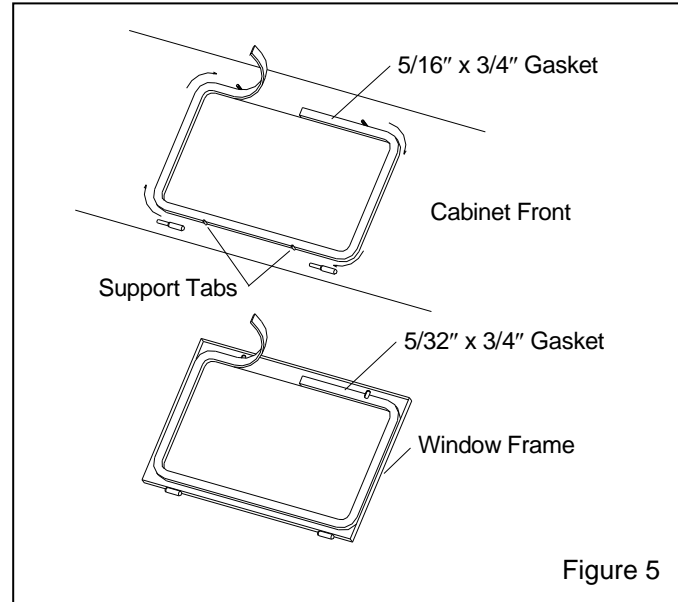

Figure 5
## 7.4 Window Gasket Replacement, Figure 5
**7.4.4** Peel a short section of adhesive backing from the 5/16" thick strip gasket, and adhere the gasket to the center of the top edge of the window opening as shown in Figure 5. Peel additional backing as needed, and work the strip around the radius of each corner, pressing it tightly to bond. Trim the gasket to fit and compress the ends to seal.